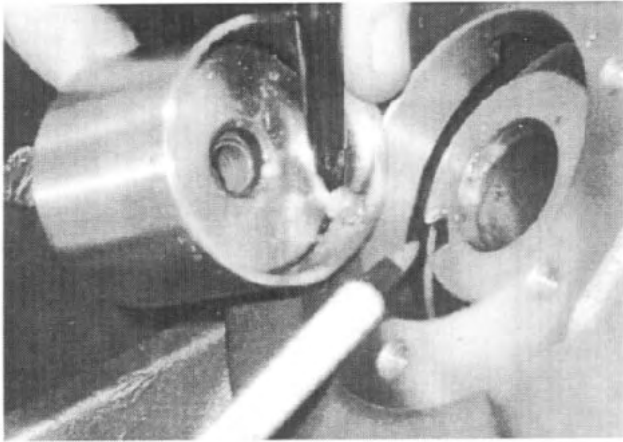

Fig. 109
1. Without the pressure relief spring installed, position the pump cartridge assembly onto the end of the intermediate shaft. See Fig. 109.
**CAUTION:** THE CARTRIDGE PIN MUST MATE WITH THE SLOT ON THE INTERMEDIATE SHAFT. SEE FIG. 109.